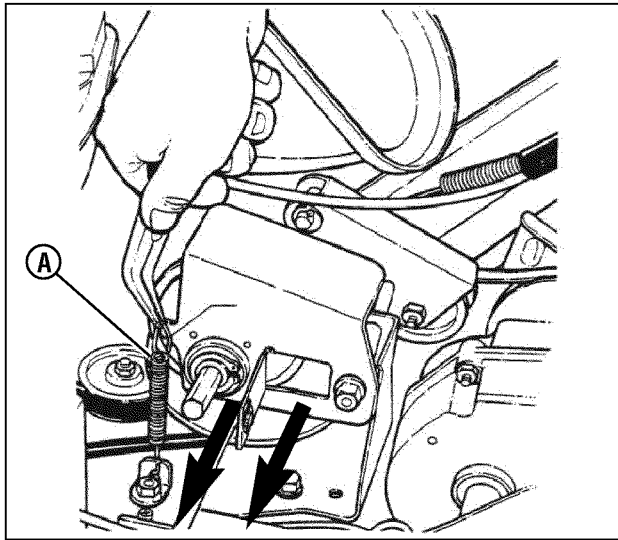

Figure 31: Removing the driven disc assembly
2. Using needle nose pliers, unhook the drive spring (**A**, **Figure 31**) and slide the driven disc assembly off the hex shaft.